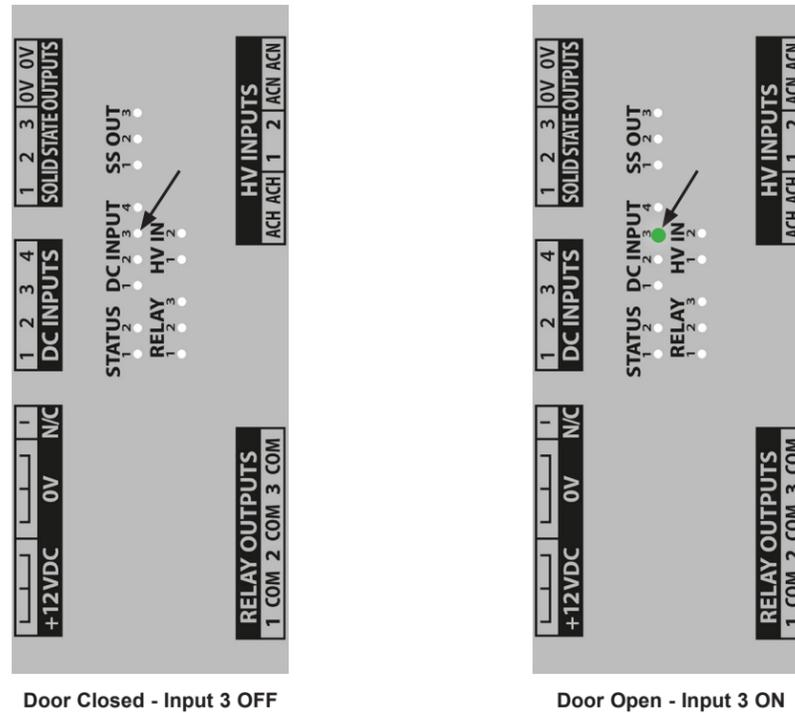

Figure 4
- Small Terminal Board: DC Input #3 OFF (Figure 4)
- Small Terminal Board: DC Input #3 ON (Figure 4)